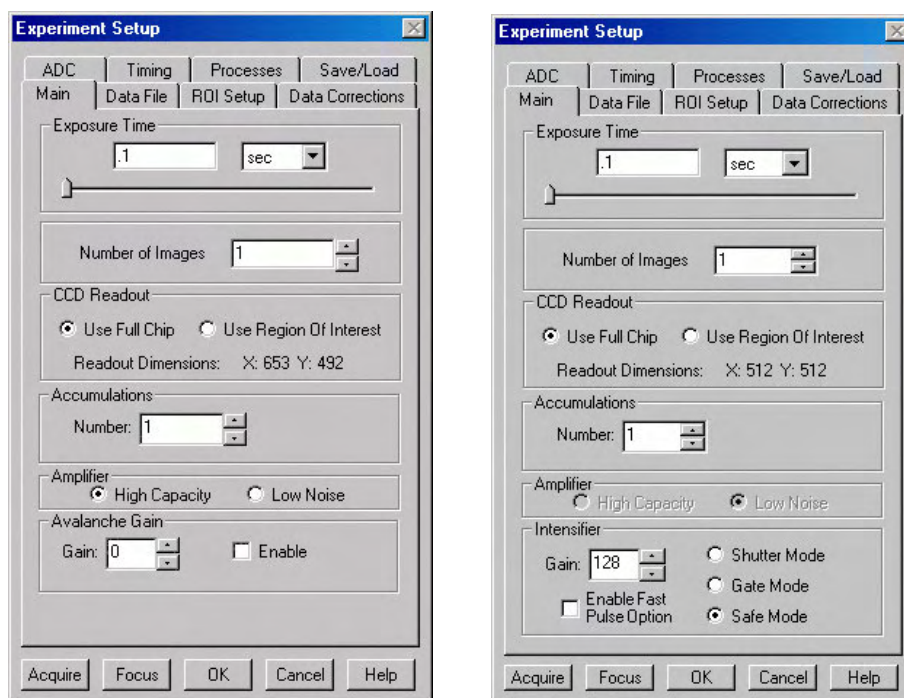

Figure 27. Experiment Setup: Main tab page; left, all but PI-MAX; right, PI-MAX
1. Open the Experiment Setup dialog box (Figure 27) from the Acquisition menu or by clicking on the  button on the **Custom Toolbar**.